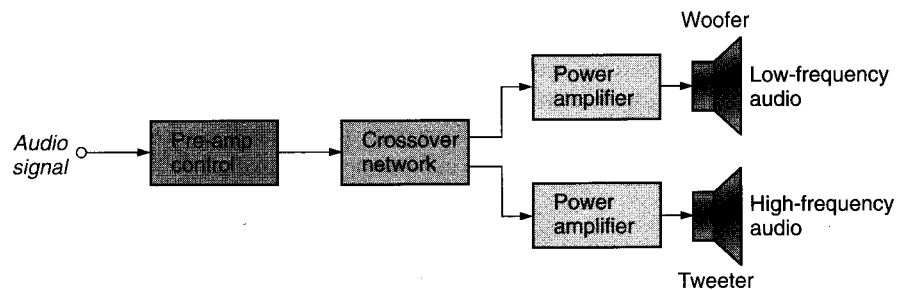
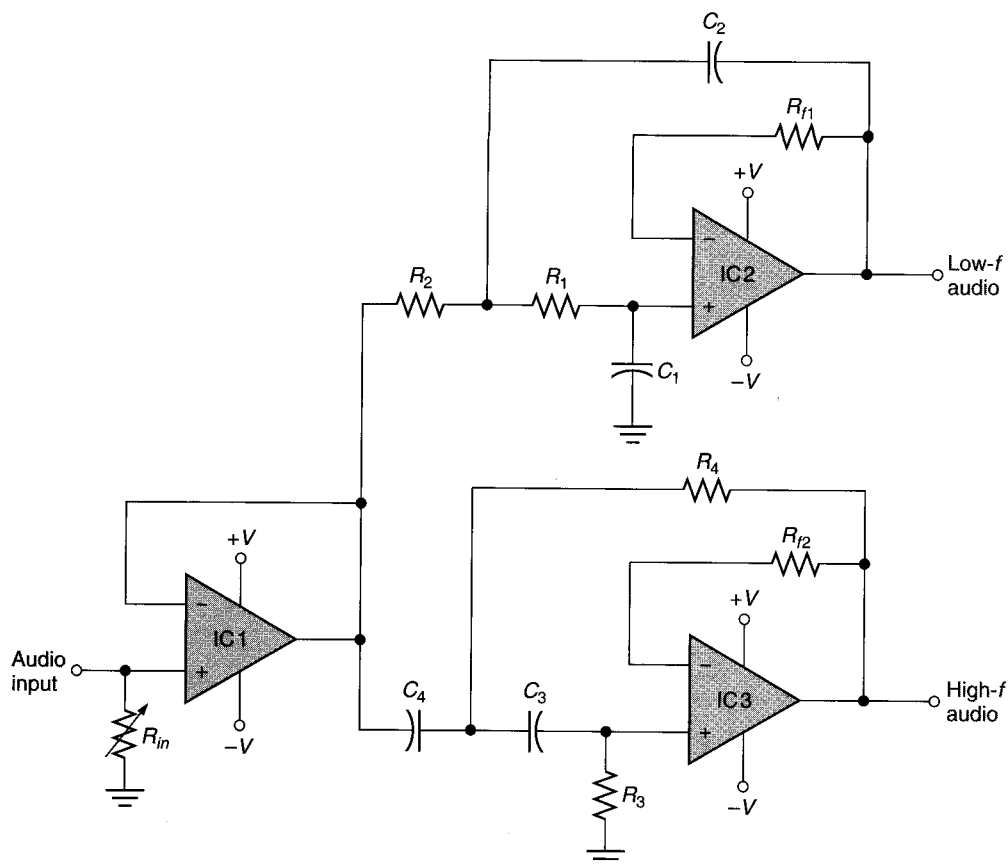

FIGURE 17.28 Crossover network in an audio system.
FIGURE 17.29 A crossover network.
A **crossover network** is a circuit that is designed to split the audio signal from a stereo, television, or other communications system so that the high-frequency portion of the audio goes to a small high-frequency speaker (called a *tweeter*) and the low-frequency portion goes to a relatively large low-frequency speaker (called a *woofer*). A crossover network may be placed in an audio system as shown in Figure 17.28.
The crossover network in Figure 17.28 could be a circuit similar to the one shown in Figure 17.29. This crossover network consists of an input buffer followed by a two-pole low-pass filter and a two-pole high-pass filter.
2. Describe the operation of the crossover network in Figure 17.29.